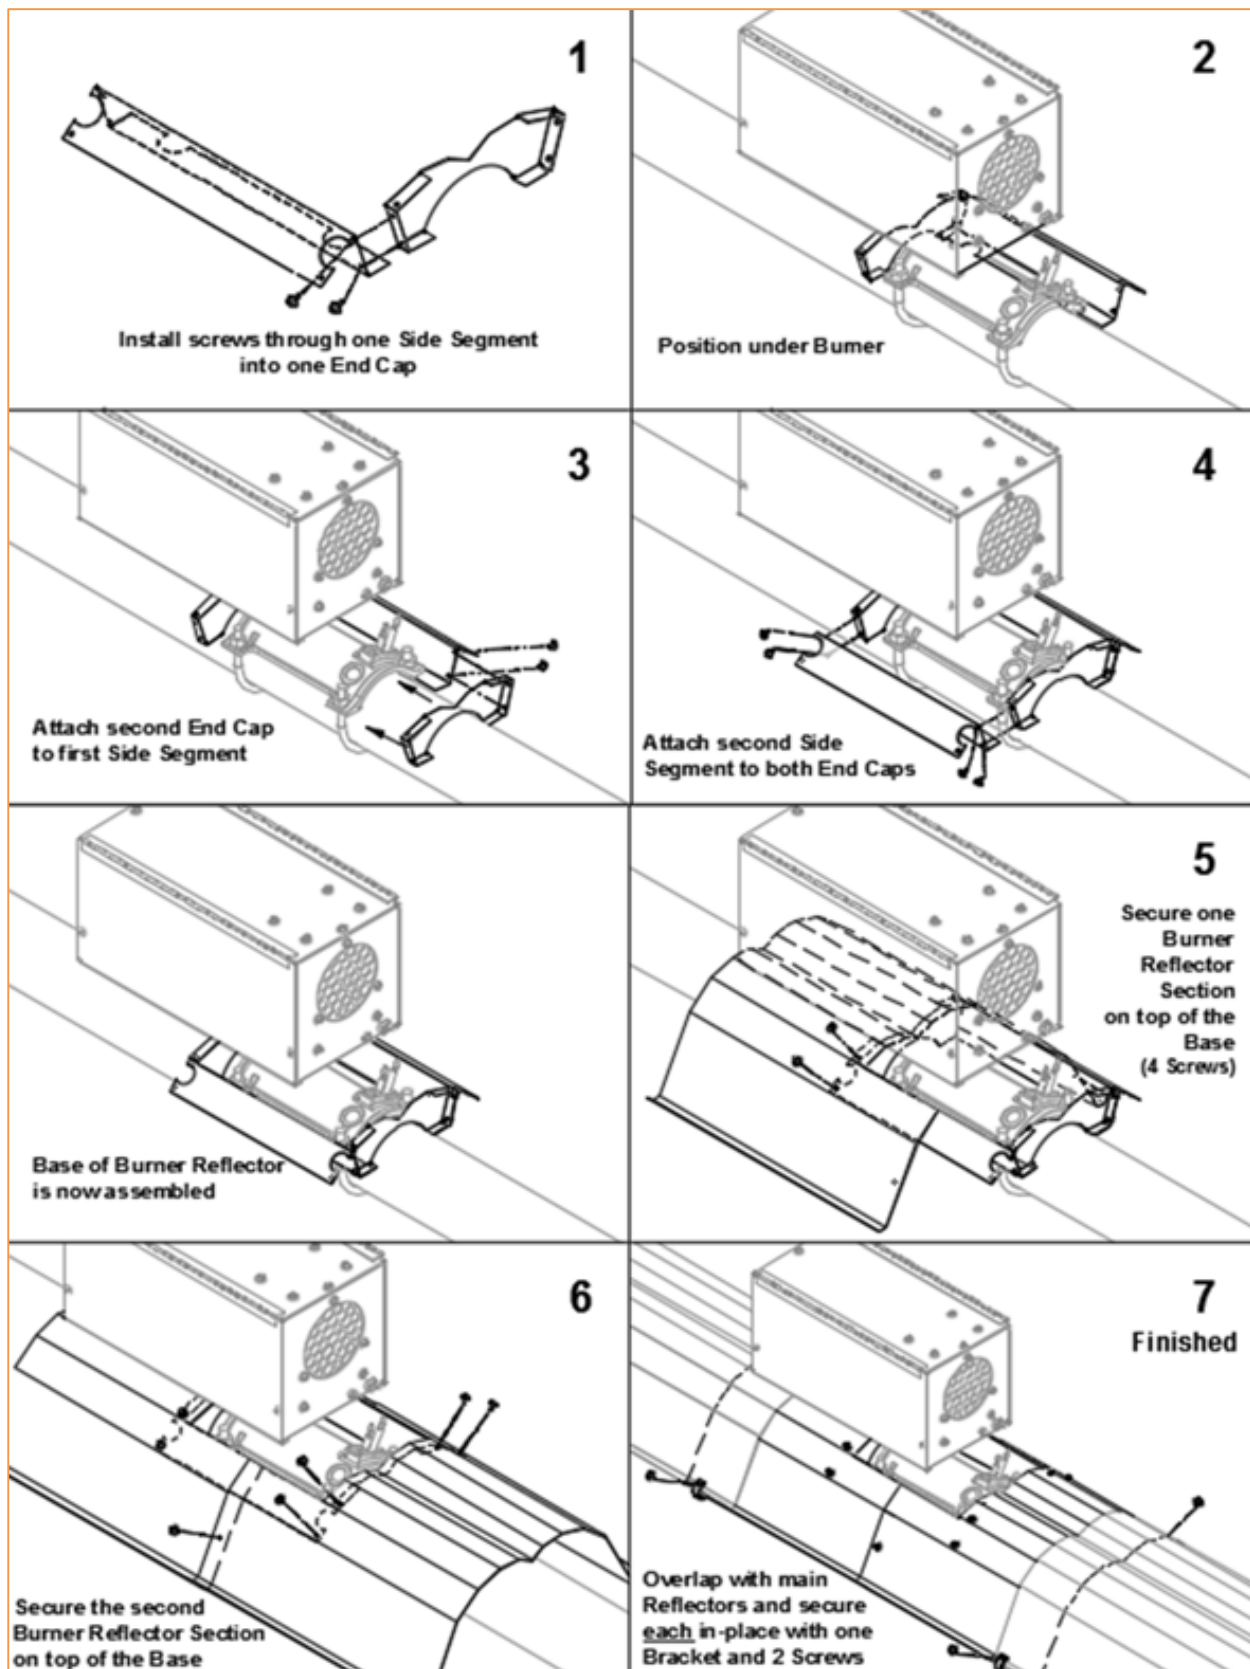

Figure 26: Burner Reflector Installation Sequence Details
*When using the optional Corner/Mitered Reflectors refer to Figure 26 in Section E - Optional Shield Equipment, for details on how to assemble Reflectors sections instead of installing End Caps.
Burner Reflectors are installed after the Burner installation, and before/during assembly of the main Reflector run. All pieces are connected using #8 x 3/8" Screws. The Side pieces and End Sections are installed first to create a Base to secure the Burner Reflector sections to. Overlap the Burner Reflectors with Standard Reflectors and secure the Reflectors together with Support Brackets. Refer to the sequence of images in Figure 26 for more detail.